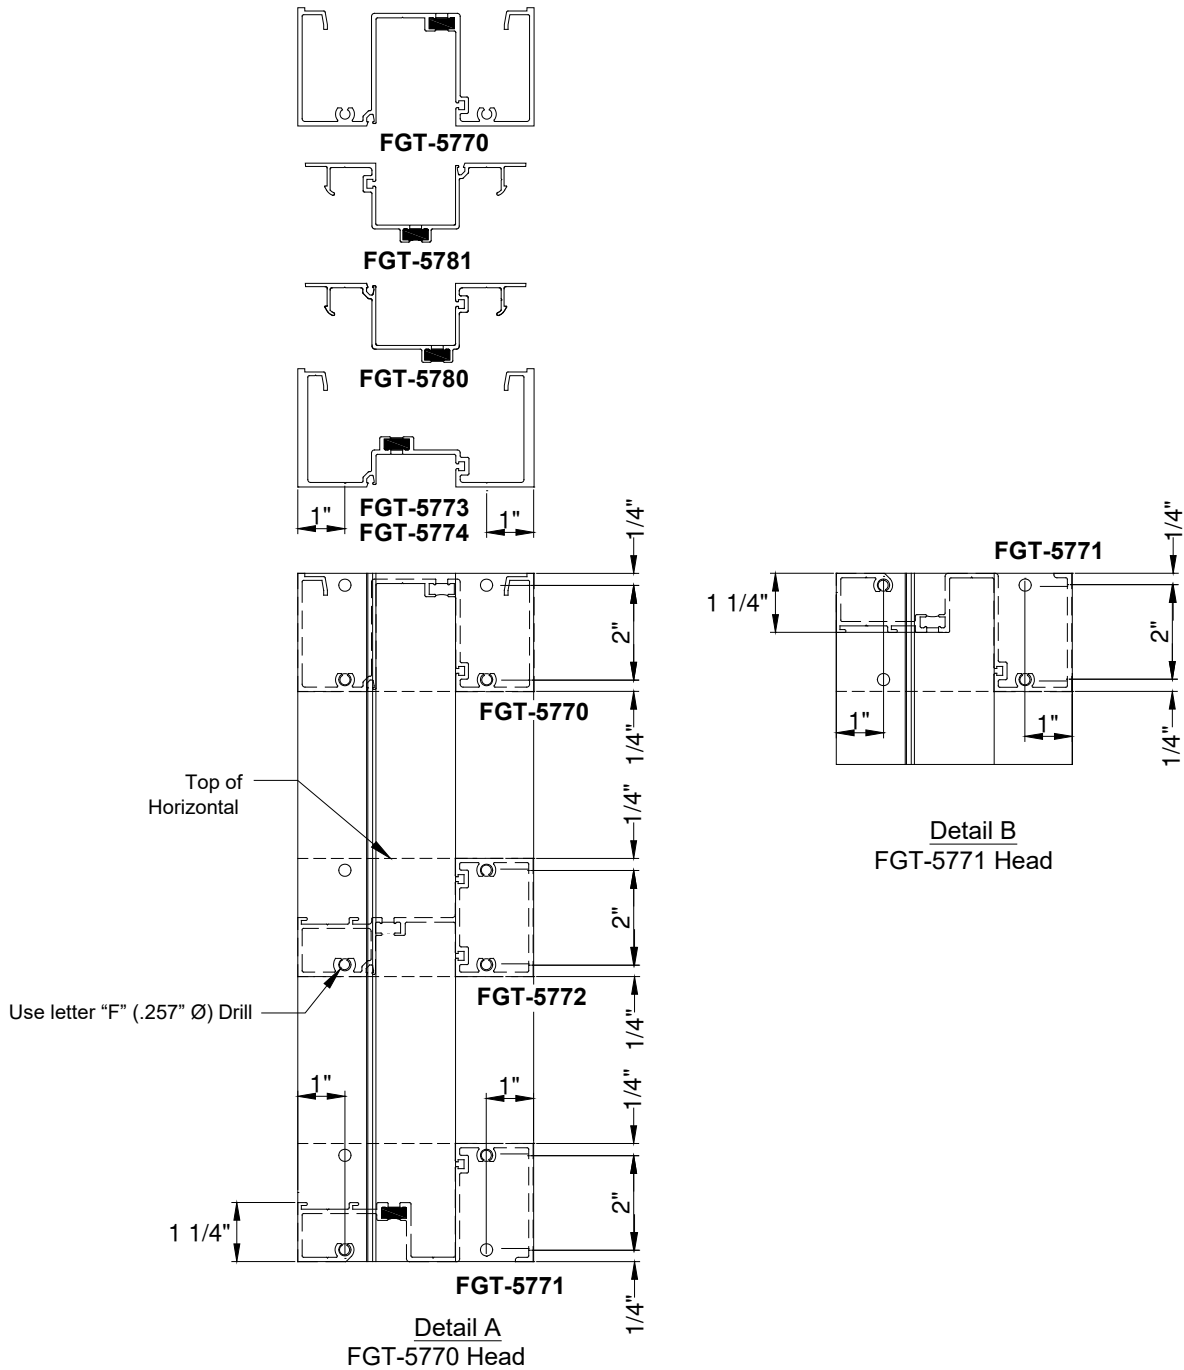
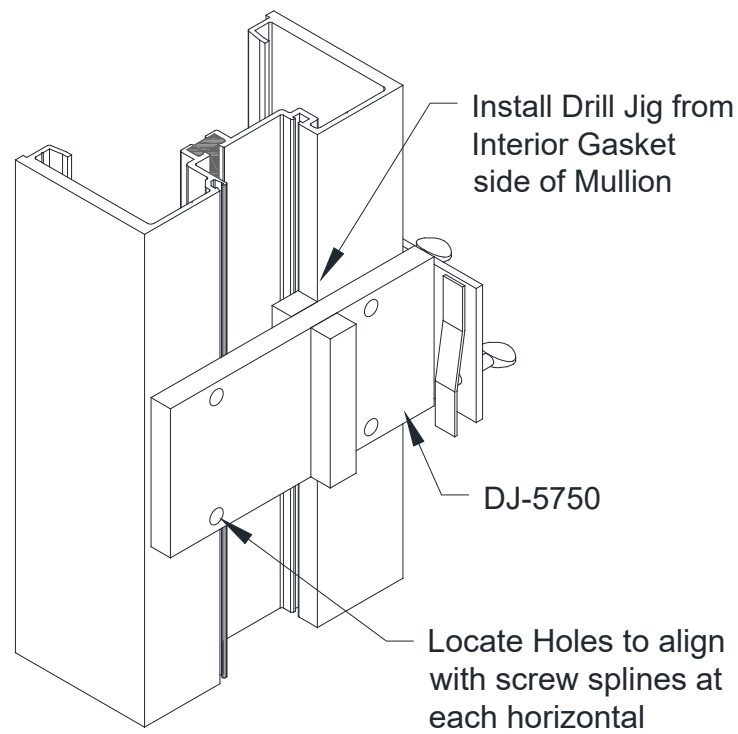

Figure 6: Vertical Mullion Fabrication
Figure 7: Drill Jig Fabrication
Drill or punch holes in Verticals for attaching Horizontals per *Figure 6*. To use Drill Jig **DJ-5750**, reference *Figure 7*.
- 10.3 Attach Horizontals to Verticals using **FS-8** (#14 x 1" HHSTS Spline Screws). Trim excess sealant tape at joints with razor knife. DO NOT PULL TAPE TO TRIM. See *Figure 6* (page 13) for hole prep locations.